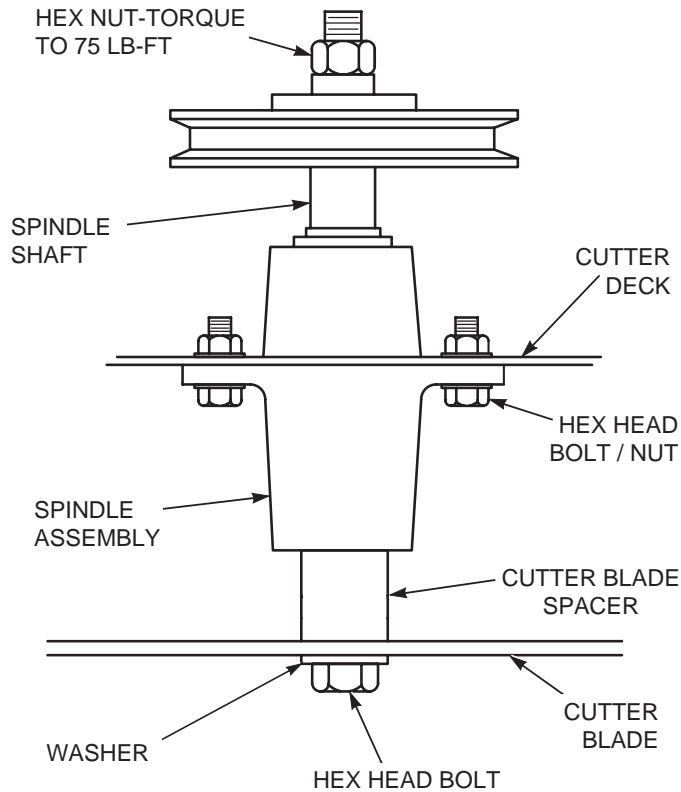

Figure 7-7. Blade Replacement
3. Secure the cutter blades to prevent them from rotating, (use the optional Blade Buddy tool P/N 9212, to assist in securing the cutter blades), remove the nut from the blade attaching bolt. Remove the cutter blade, bolt and spacer from the spindle shaft. See Figure 7-7.
6. Install the hex nut to the blade bolt at the top of the cutter spindle. Secure the blades from rotating and torque to 75 lb-ft. See Figure 7-7.